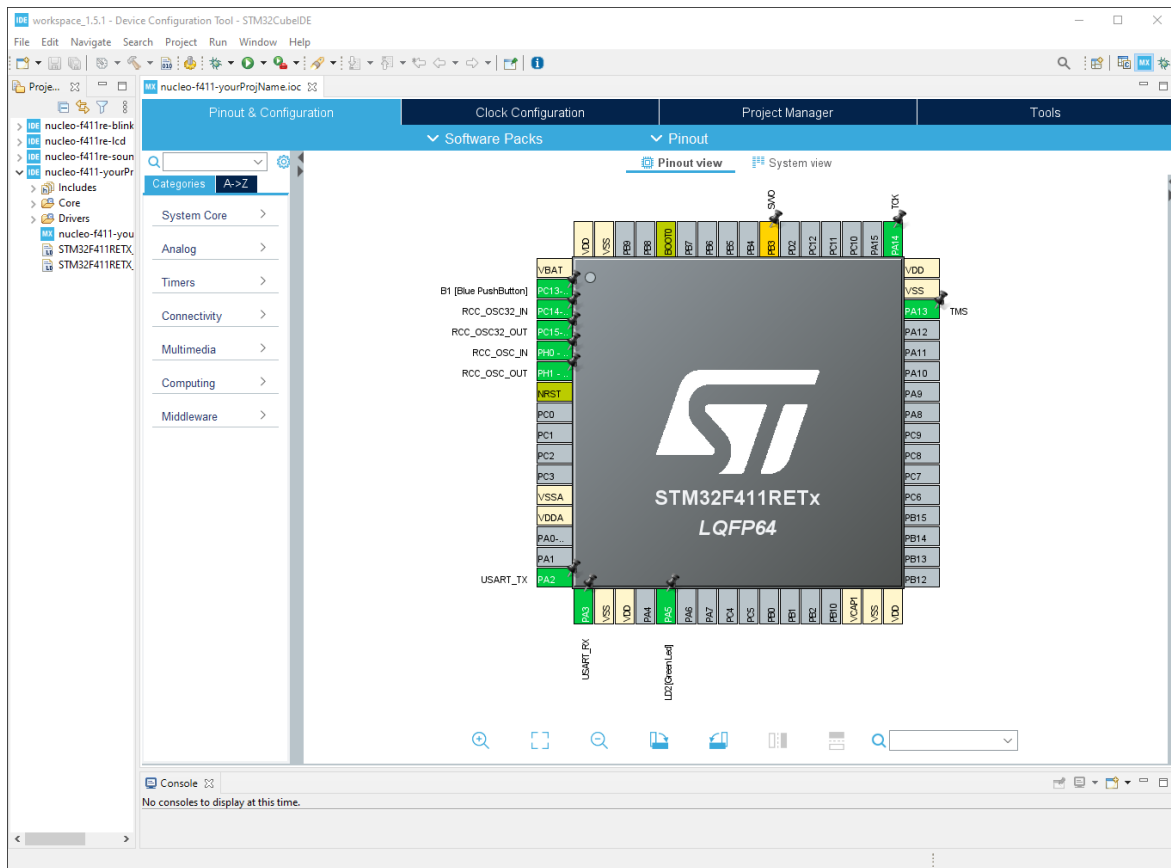
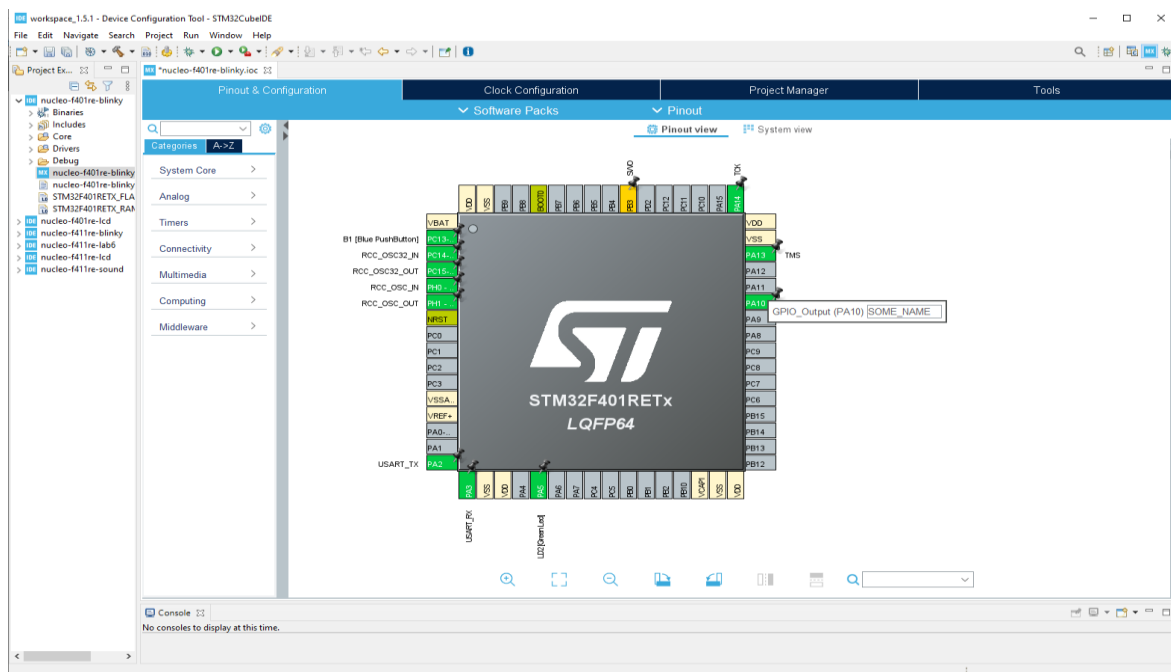

Figure 7: Pinout & Configuration view in STM32CubeIDE
Figure 8: Enter User Label for GPIO Pin
6. A pinout view of "**Pinout & Configuration**" should pop up (Figure 7). You can modify the pins according to your need, by clicking on it. The grey pins are not set. When you set a pin, it will turn green. Leave everything as default at the moment. You can also **enter a user label** for any pin by right clicking on the pin (Figure 8).
2. Check the “**Pinout & Configuration**” (Figure 7) to set the internal LED LD2 (green LED on the Nucleo board) to a pin. You can simply **click** on the pin and set it to “**GPIO-output**” from the options. In the default configuration shown in Figure 7, we can see that LD2 is already connected to PA5 and configured as GPIO-output. The name (user label) of a pin could be different from the pin name in the pinout view. Check **Figure 3** and “**main.h**” (inside Core->Inc subfolder) in your project folder to **confirm the pin names** before using in any function.
2. You can choose any of the available GPIO pins to build connection. Check the **pin connectors (Figure 3)** and your “**Pinout & Configuration**” (**Figure 7**) again.